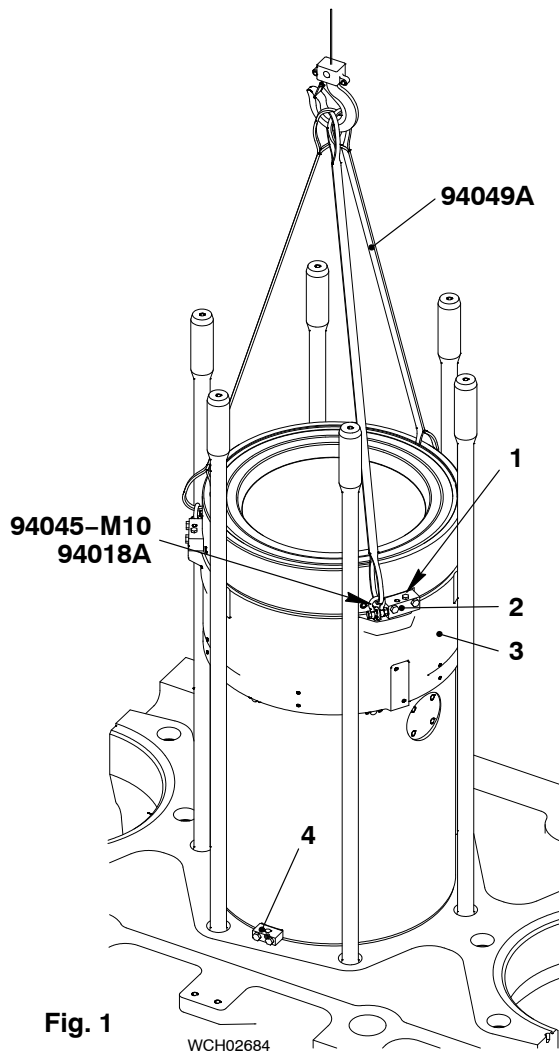

Fig. 1
- 1) Remove the cylinder holder (4) , as shown in Fig. 1.
- 2) Attach the three eye bolts (94045 M10) to the bottom water guide jacket (3).
- 5) Remove the three screws (1).
- 7) If the water guide jacket (3) does not move, do as follows:
- a) Put the bolts (1) in the threaded holes.